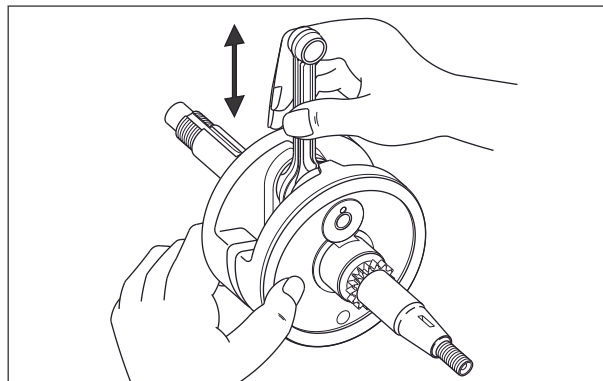

Fig. 3.172
- Hold the crankshaft assembly in hand, shake the connecting rod to find out the radial play. If any play is noticed, then replace the crankshaft assembly with a new one. (Fig. 3.172)